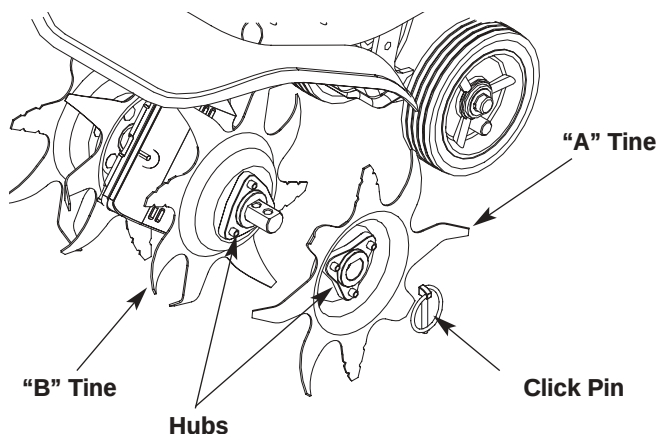

Fig. 15
2. Remove the click pin from each end of the tine shaft. Slide the tines off of the shaft (Fig. 15).